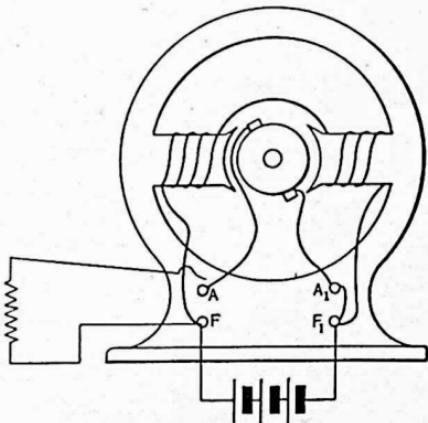

FIG. 169. Test for low residual magnetism.
(6) Test for Low Residual Magnetism. Connect up the machine as at the start, but leaving open one field connection (*A*) to the armature, Fig. 169. Connect in a few dry cells so as to send a current through the field while this connection (*A*) to the armature is open. Start the machine and, if the voltage begins to pick up when the remaining field connection is made, pull the dry cells out. If not, try connecting the cells to send the current in the reverse direction through the fields.
(7) Test for Short Circuit of Machine.